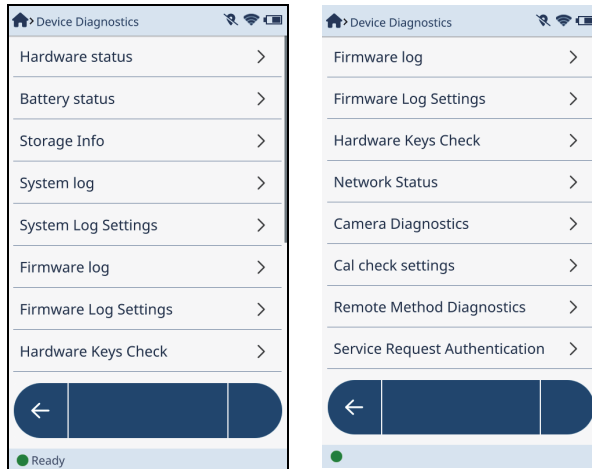

Figure 4-20 Device Diagnostics screen
- ◆ Tap the **Diagnostics** button () in the **Menu Tray** to open the **Device Diagnostics** screen (see Figure 4-20 on page 131).